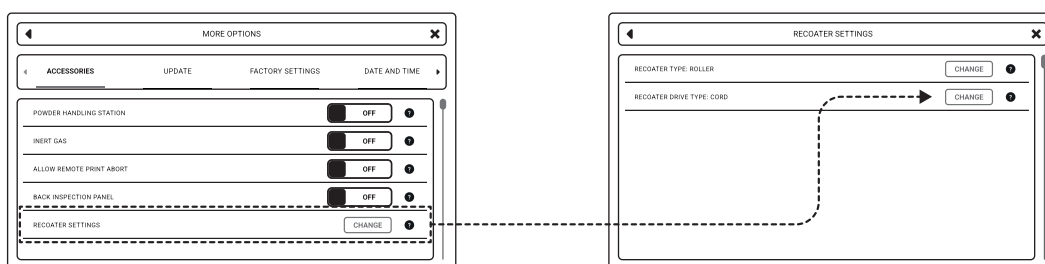

Fig. 18 Recoater Strip activation I.
1. On the screen under **SETTINGS**, select the **MORE OPTIONS** tab and then **RECOATER SETTINGS** (fig. 18).
3. Select the **RECOATER DRIVE TYPE** line and press the **CHANGE** button (fig. 18).